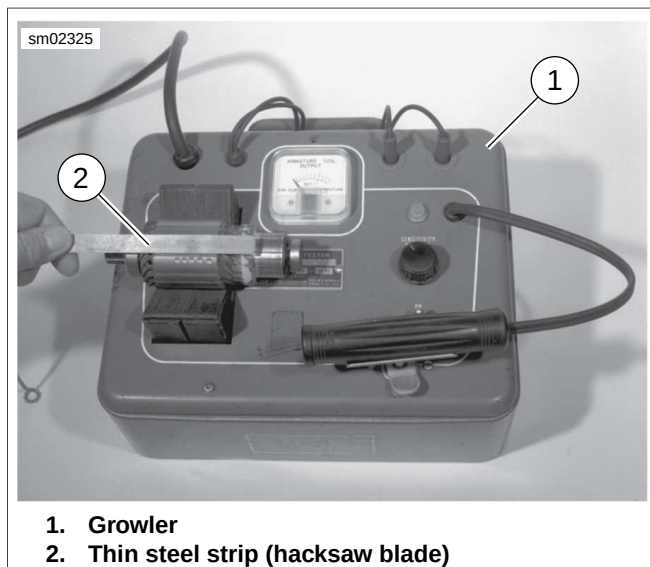

Figure 1-12. Shorted Armature Test Using Growler
4. See Figure 1-12. Check for a SHORTED ARMATURE.